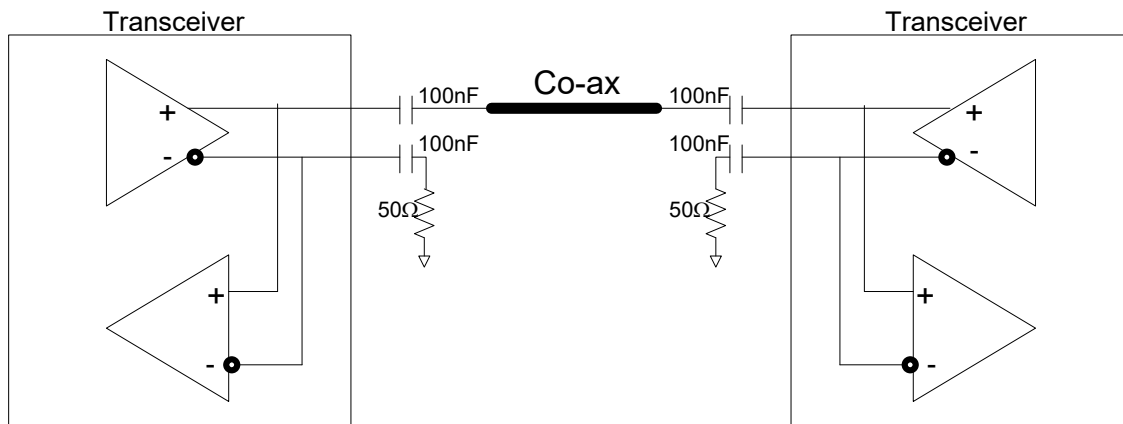

Figure 2. Typical Coax Termination Scheme (“+” and “-” May be Swapped Depending on the Device)
- See Figure 2 for coax termination scheme.